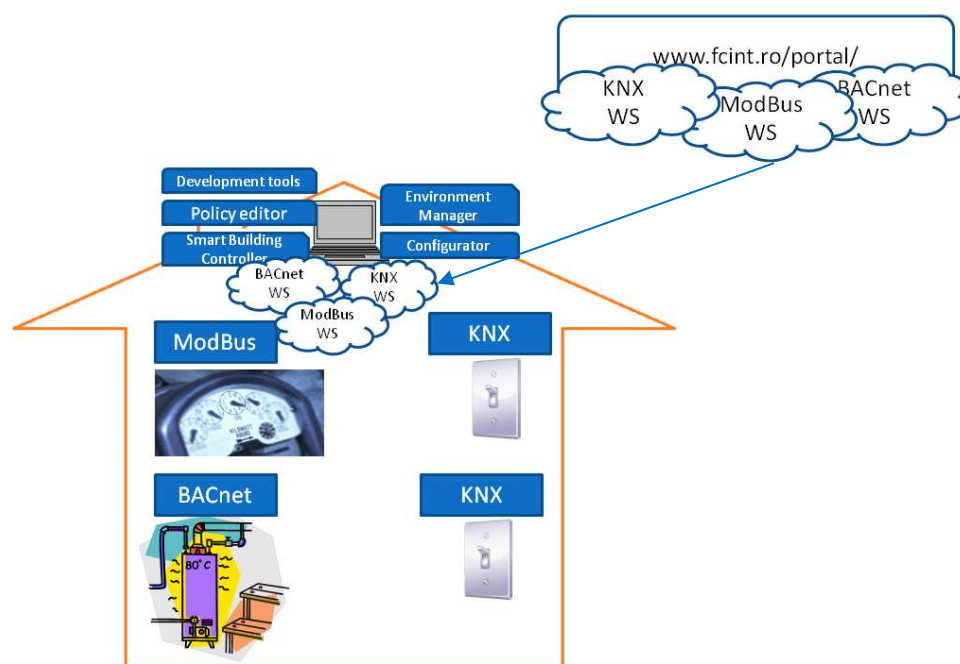

Figure 3. Discover and install services
- The user discovers on the FCINT portal the services for the devices it owns and install them (figure 3);